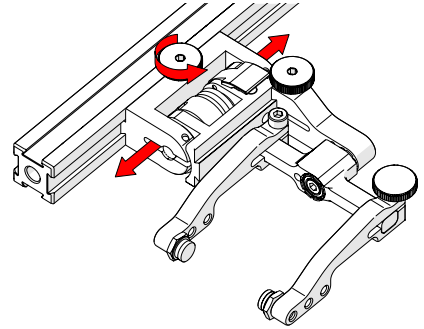

Fig. 152 - Adjust on frame bar
2. Use the probe holder adjustment knob to position the probe holder along the frame bar (Fig. 152).